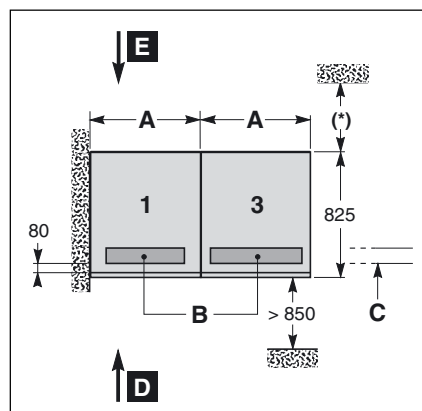

Fig. 5
- ▶ see figure 5 for a single-UPS **MGE™ Galaxy™ PW** unit with a single battery cubicle;
Key for figures 5 to 7: